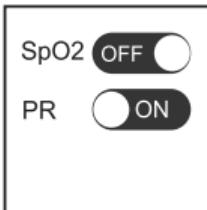

Fig.4-3
4.1.1 Tap "**Indication Switch**" and on the next screen tap the ON or OFF button the enable or disable the indication of SpO₂ or PR, as shown in Fig.4-3.